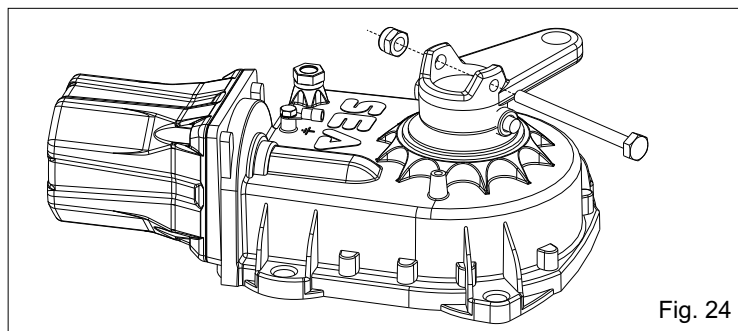
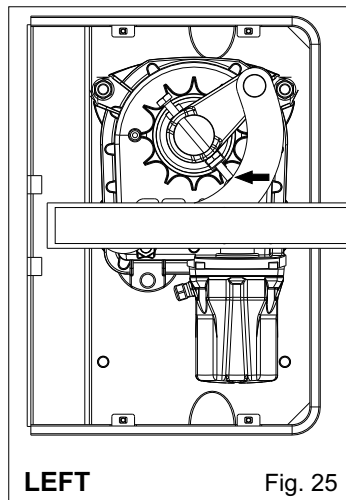

Fig. 24
Fig. 25
6.2. Insert the screws of the limit switch as in Fig. 24, bring it to the stop with the counter-connecting rod and fix it with the special nut. In fig. 25 and 26 you can see the screws of the mounted limit switch respectively for the left-hand side mounting and the right-hand side mounting.